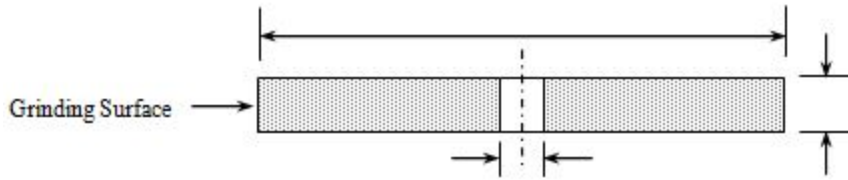

Figure 101D *Type 1 Straight Stone*
- Type 1 straight stones are provided as an 8 x 1 and grinding is intended to be performed on the outer edge. No side loading of the stone although the outer edge corner is sometimes used to remove excess metal and contouring. (See Figure 101D)